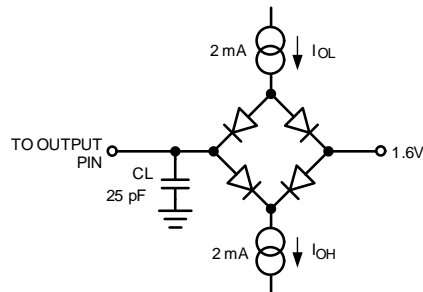

Figure 2. Timing Test Circuit
(1) Typical values are at  $T_J = 25^\circ\text{C}$  and represent most likely parametric norms. Test limits are specified to TI's average outgoing quality level (AOQL).
(2)  $t_{DIS}$  is the time for  $D_{OUT}$  to change 10% while being loaded by the timing test circuit (see Figure 2).